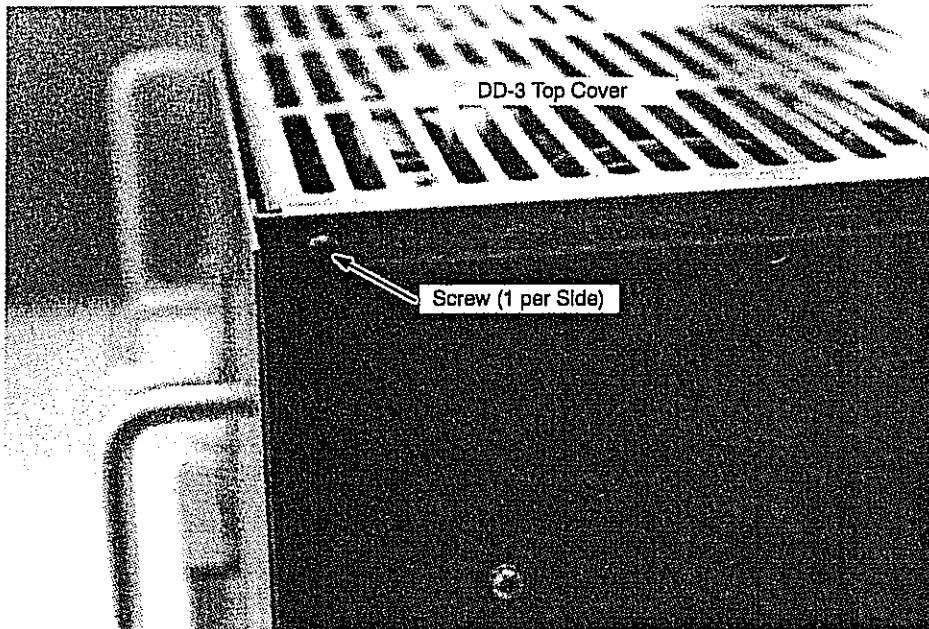

Figure 7-47. DD-3 Top Cover
6. Remove the two screws, one from each side, that secure the top cover. Refer to Figure 7-47.